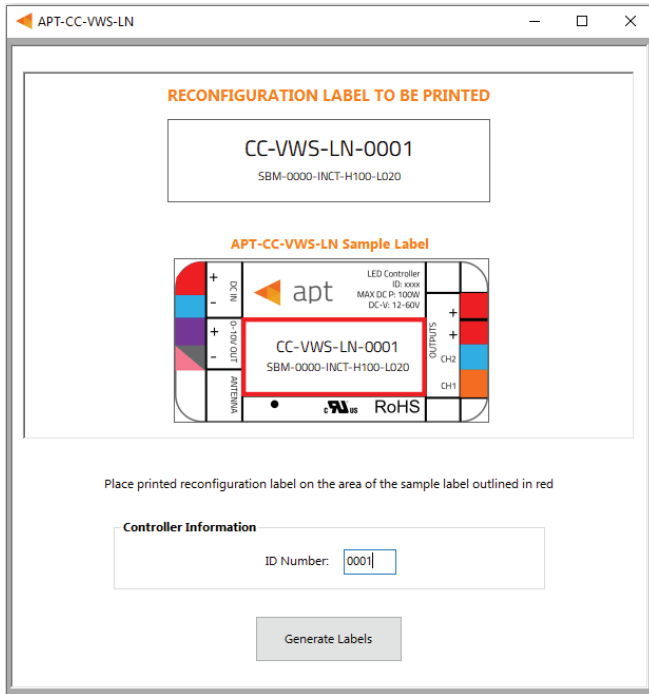

Figure 11: Programmer Interface window - CCT Mapping tab
- 1 Select **File > Generate Label** or press **Ctrl +L** to open the Label Generation window (shown in Figure 11).